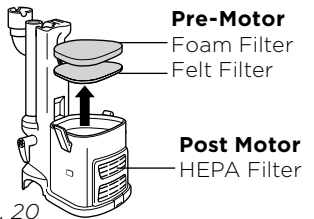

Fig. 20
- 2 Pull the 2 filters out from the top of the canister. (Fig. 20)